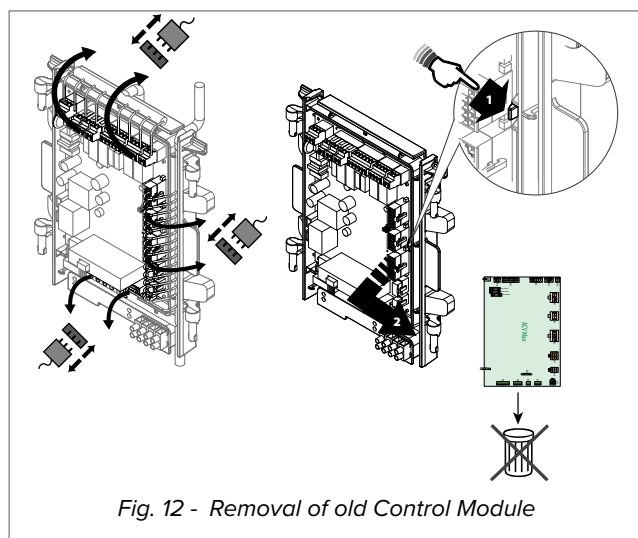

Fig. 12 - Removal of old Control Module
4. Remove the circuit board and discard according to applicable local regulations (See *Fig. 12*).